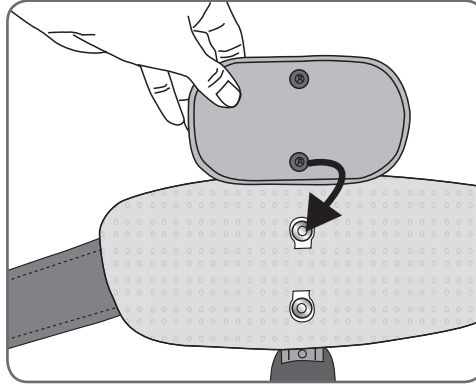

Figure 8-39: Snapping the proximal Thigh cloth electrode.
3. Snap the proximal Thigh cloth electrode to the proximal panel. See Figure 8-39.